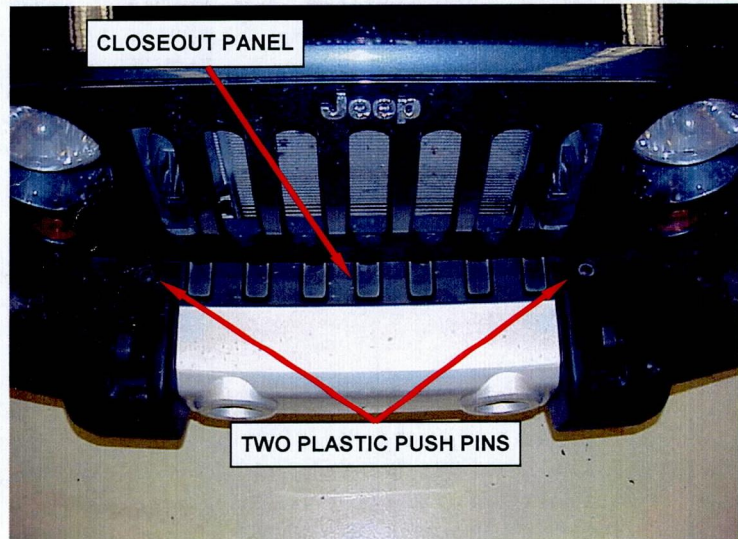

Figure 1 - Closeout Panel
1. Remove and save the two plastic push pins from the front bumper closeout panel (Figure 1).
14. Return the front bumper closeout panel to its original position and install the two plastic push pins (Figure 1).